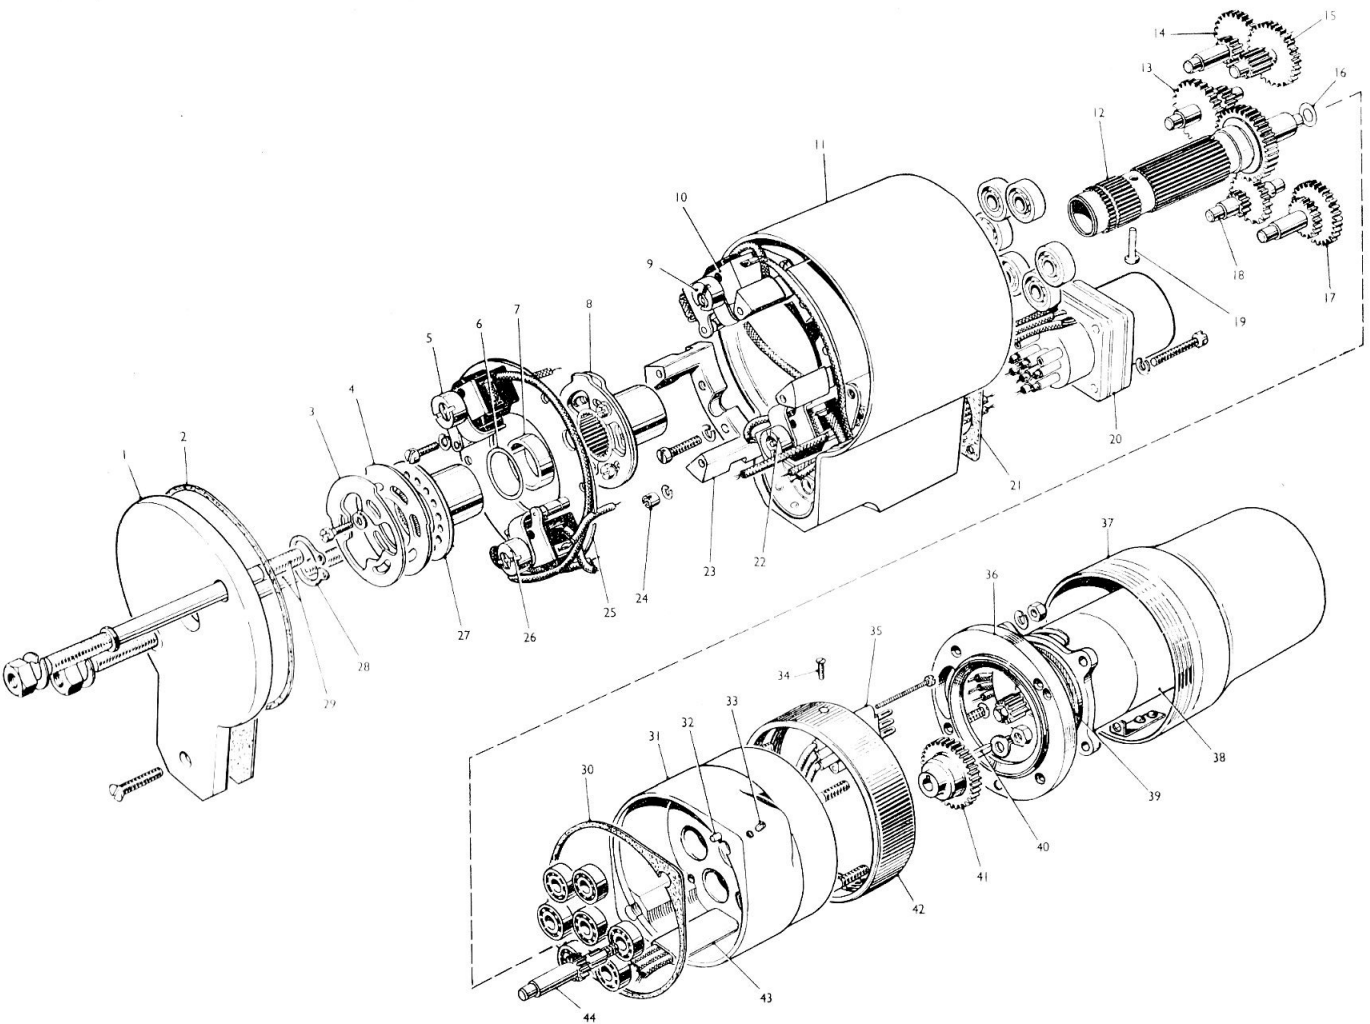

Fig. 7. Exploded view
General (fig. 7)
KEY TO FIG. 7
(6) Fit the limit switch platform assembly into the switch housing, secure it with the spring washers and screws, and solder the leads to the switches. Loop the leads through the switch terminals before soldering.
(7) Assemble the spacer, shims and outer cam carrier to the output shaft and retain them with a new circlip. Assemble the cams to the cam carriers and adjust as in para. 19 (2) .
(8) Adjust the eccentric cam followers as described in para. 19 (3).
(9) Fit the flange jig plate and perform the travel setting procedure as described in sub-para. (5) above, with the exception that the travel now to be obtained for actuator CZ64581 is 0 deg. to 70 deg. and 140 deg. to 70 deg., and for actuator CZ64581/A 0 deg. to 83 deg. and 166 deg. to 83 deg. See fig. 7. Remove the flange jig plate.
(10) Position a new flange plate gasket, lubricate the output shaft bearing bush, fit the flange plate and secure it with the studs and retaining screw. Fit the grub screws to the studs to secure them.
(11) Lock all drilled screw heads with 22 S.W.G. stainless steel wire.